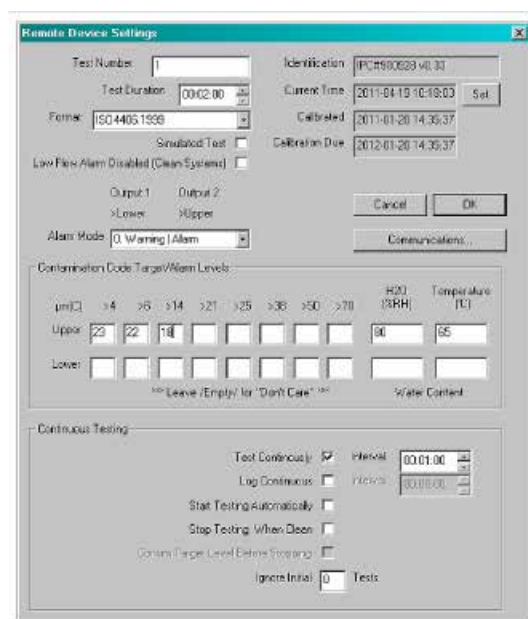

Figure 5.19
**NOTE:** The ICM 4.0 has been designed to be a very flexible product, so has a wide range of settings and operating modes. However the shipped defaults are suitable for most applications and many users can skip this section. Actual operation is straightforward even when advanced settings are used during initial configuration, see figure 5.19.